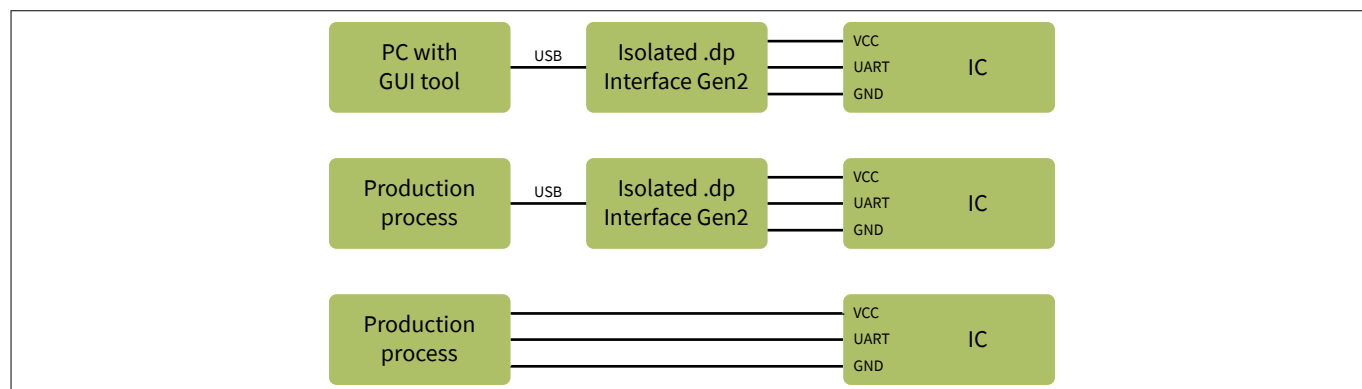

Figure 28 Setup for Parametrization using **.dp Interface Gen2 for Interactive Development (top) and Production (middle and bottom)**
4. For mass production, the *XDPL8220 Programming Manual* documents the necessary interfacing and procedures to integrate the parameter configuration of XDPL8220 into the production line. **Figure 28** shows two options to easily apply the configuration of the **IC** during production tests: